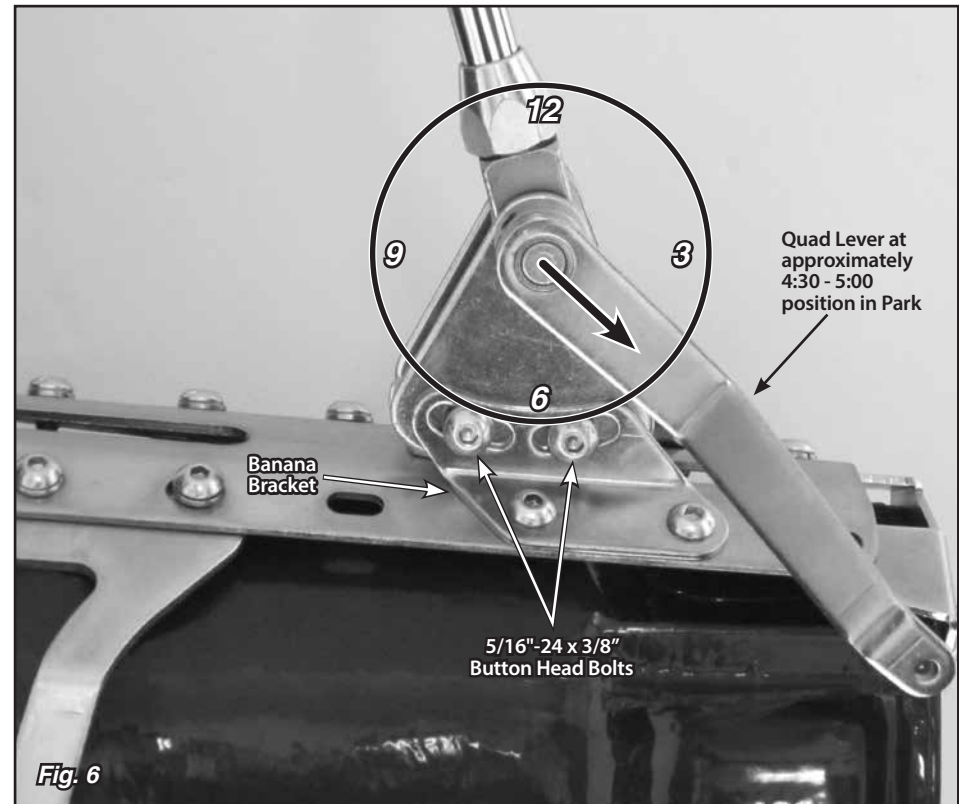

Fig. 6
Step 10: Make sure the two 5/16"-24 x 3/8" button head bolts that attach the left side banana bracket to the shifter assembly (in the curved, slotted holes) are tight. Before tightening the shifter assembly down to the main plate, move the shifter lever through all the gear positions. Make sure that the shifter lever and knob do not come in contact with the dash or the seat. The shifter assembly can be tilted forward or backward if needed by loosening the 5/16"-24 x 3/8" button head bolts in the curved, slotted holes in the left side banana bracket. **Fig. 6**
Step 11: Put the shifter lever into the Park position and check the position of the quad lever. It will need to be pointing to about the 4:30 - 5:00 position. If it is not, loosen the set screw in the top of the quad lever with a 1/8" Allen wrench and slide the quad lever off of the shaft. Reposition it on the shaft at approximately the 4:30 - 5:00 position, and retighten the set screw. **Fig. 6**
Double check to make sure that the bolts connecting the left side banana bracket to the shifter assembly are tight. **Fig. 6**